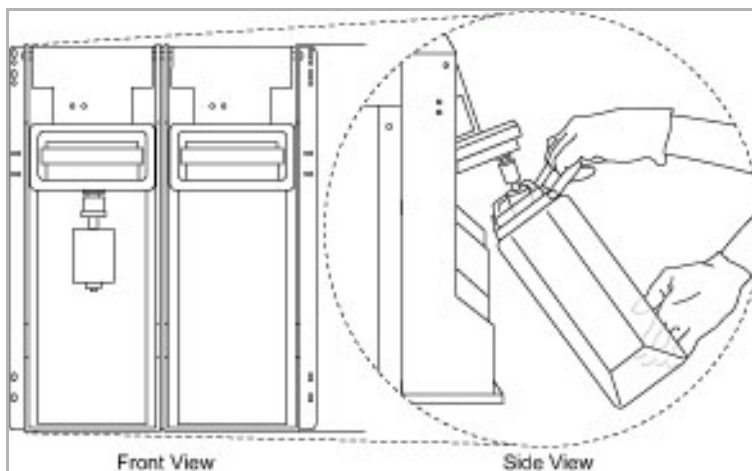

Figure 1.2 Installing the Waste Jar
3. Hold the jar from the bottom and slide the jar into the appropriate compartment (Figure 1.2).